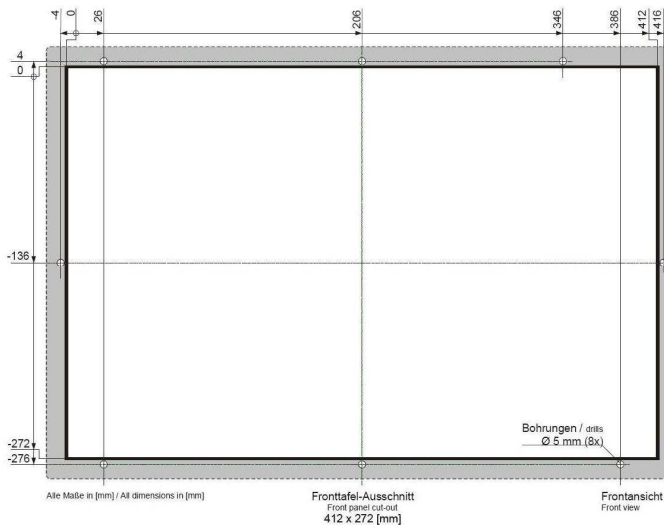

Fig. 13: Mounting cutout
- The device is fastened with eighth stud bolts (Fig. 13). Eighth bores with a diameter of 5 mm are provided for the stud bolts.